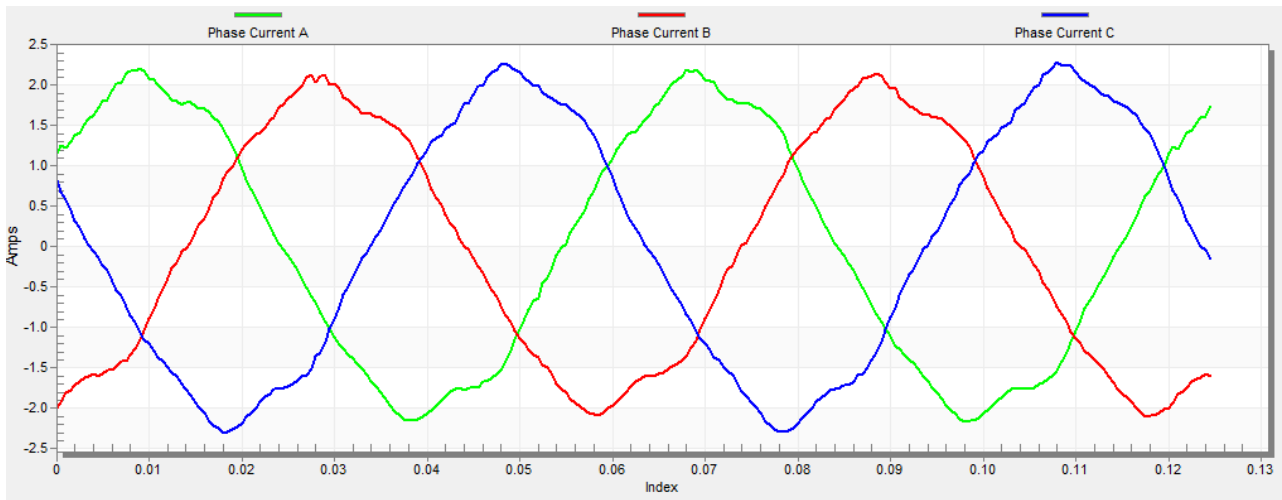

Figure 40. Phase currents
5. The optimal ratio for the V/Hz profile can be found by changing the V/Hz factor directly or using the “UP/DOWN” buttons. The shape of the motor currents should be close to a sinusoidal shape (Figure 40).